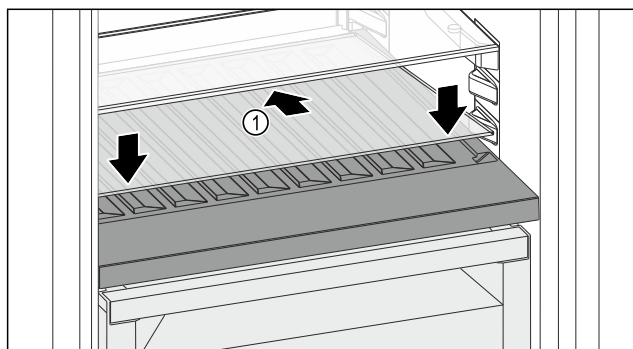

Fig. 105
- Place the glass shelf Fig. 105 (1) at an angle, sloping it downwards and backwards.
- Lower the glass shelf Fig. 105 (1) at the front.